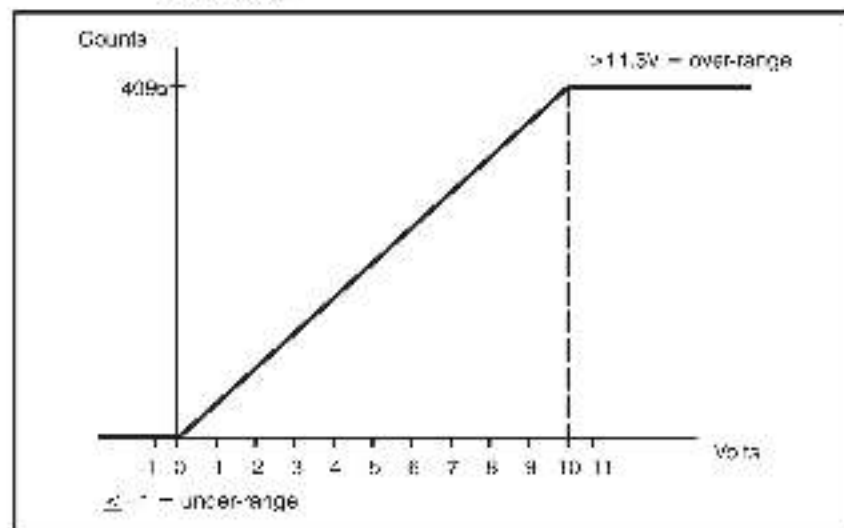

Figure 4.1 Input Signal Conversion
When creating application programs, the programmer should estimate the magnitude of input signals and output data because both must be in the specified range of the Analog Rail module (0-10V). Input signals greater than 10V will be clamped at 4095. Input signals greater than approximately 11.3V will also cause the over range bit (12 decimal; 14 octal) to be set to 1. Signals less than 0V are clamped at zero (0). Signals less than approximately -1V will also cause the under range bit (13 decimal; 15 octal) to be set to 1. See Figure 4.1.